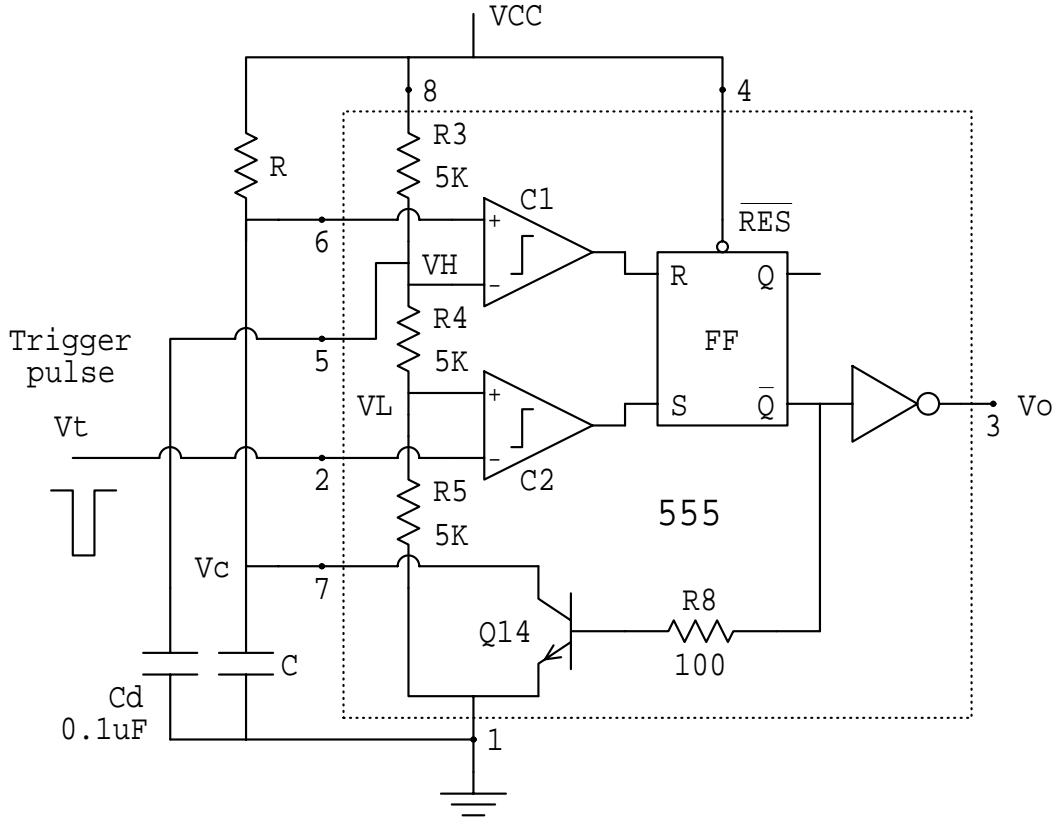
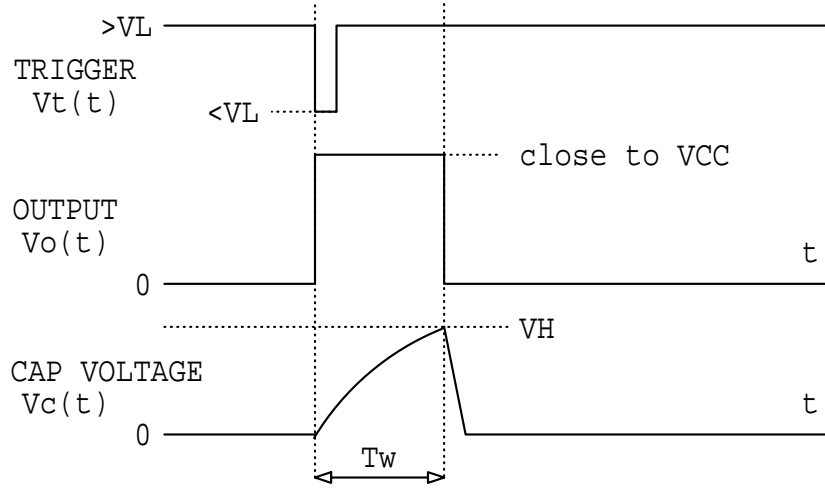

Figure 2: Monostable circuit built around the 555 timer.
Figure 3: Typical waveforms in the monostable circuit with the 555 timer.
The circuit connection for the monostable operation is shown in Fig. 2. The corresponding waveforms are shown in Fig. 3.
Let us apply the above solution to the problem of finding the output pulse width T_w as a function of the time constant $\tau = RC$. From Figs. 2 and 3, we have that $V_o \approx 0$, $V_1 = V_{CC}$, and $V_{TH} = V_H = 2V_{CC}/3$, so that
Design the monostable circuit of Fig. 2 to produce the output pulse of duration $T_w = 30\mu s, \pm 2\%$, for each short trigger pulse. To verify operation of the monostable, generate the trigger pulses from a laboratory pulse generator. If necessary, i.e., if the lab signal generator cannot produce the required trigger pulses, use the circuit you designed in the prelab problem #2. Verify the amplitude, the frequency and the pulse width of the trigger signal **before** connecting the trigger pulses to the *TRIGGER* input of the monostable. You must not apply a voltage outside the supply-voltage range (zero to V_{CC}) to any pin of the 555 !
1. Derive expressions (11) and (12).
3. Design the monostable circuit of Fig. 2 to produce an output pulse of duration T_w for each short trigger pulse, as specified in Section 3.1. Show the circuit diagram with labeled component names and values. Do a PSpice transient simulation to verify the design and attach the simulation results (one page of waveforms). A 555 Spice model is available with the evaluation version of PSpice. This is a paper design for the experimental task described in Section 3.1.